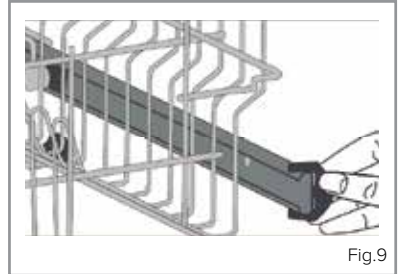

Fig.9
- Open the basket retaining clips (Fig 9), turning them to the side.